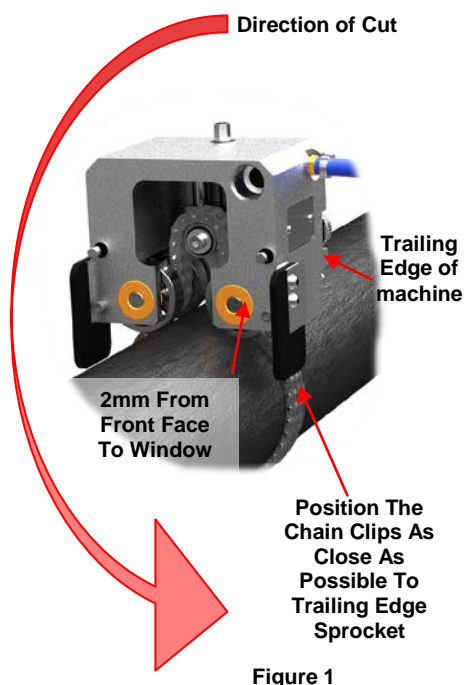

Figure 1
3. Thread the chain as shown in Figure 1. Then pass the chain over the two sprockets in the circumferential cartridge and drape the chain around the pipe **making sure it is not on the section of pipe that is to be cut out**.
4. Ensure the chain tensioner roller is at its lowest position (turn the chain tensioner anti-clockwise). Pull the chain tight around the pipe and ensure that the open side of the chain hooks are facing outwards from the pipe then push the chain hooks through the next but one available free link on the chain (This will leave one free link, which will allow for easier removal of the chain). Position the face of the Circumferential Module as shown in figure 1, 2mm (1/16") in front of the intended circumferential slot. The chain hooks should be positioned on the trailing side of the machine.